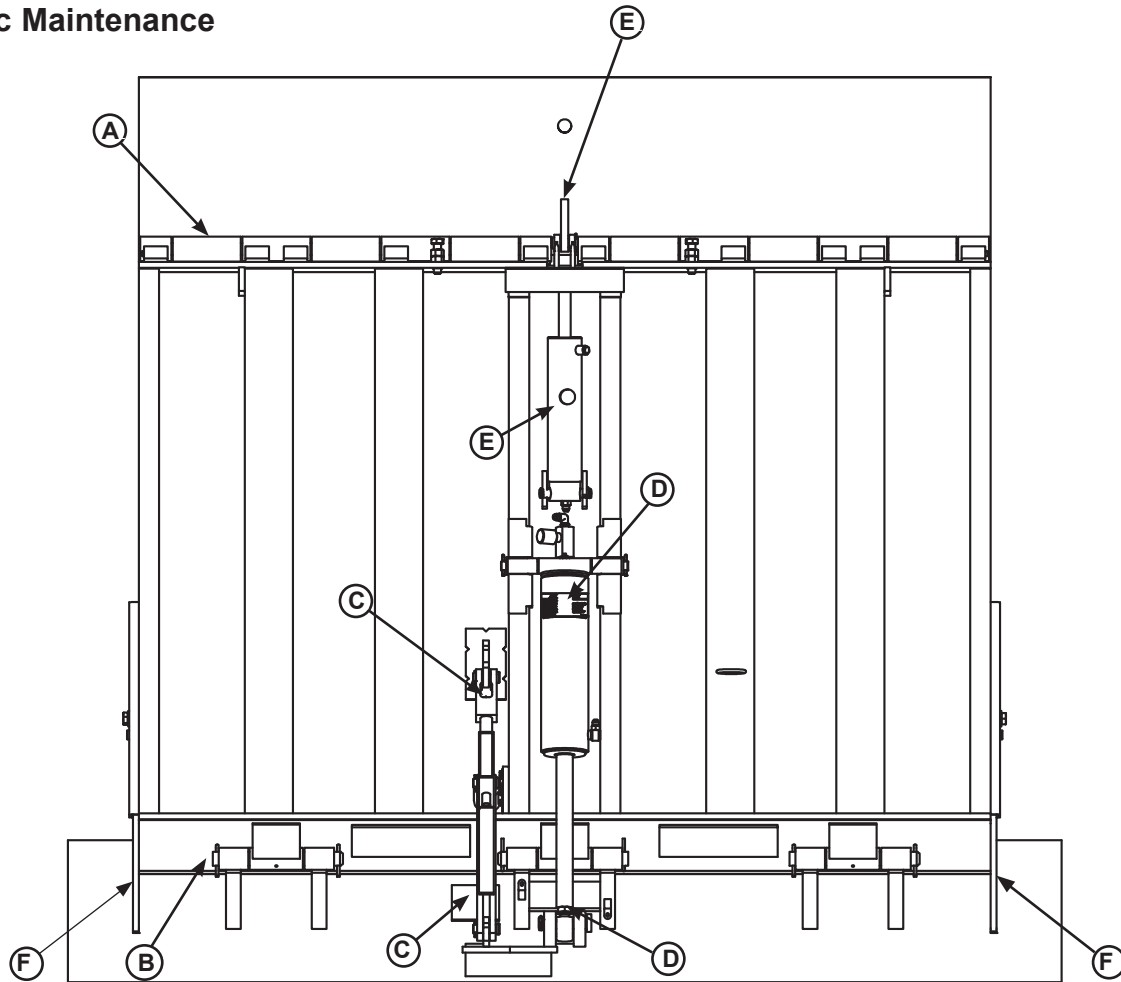

Figure 30
- » Lubricate the following areas with light weight machine oil, see **Figure 30**:
- (A)— Lip hinge area (apply oil to the top of the entire length of lip hinge when platform is in the stored position and lip is folded)
- (B)— Platform hinge area (apply oil to top of all platform hinges when platform is in the stored position)
- (C)— Storage prop pins
- (E)— Lip cylinder pins
- (D)— Hoist cylinder grease fitting and pin